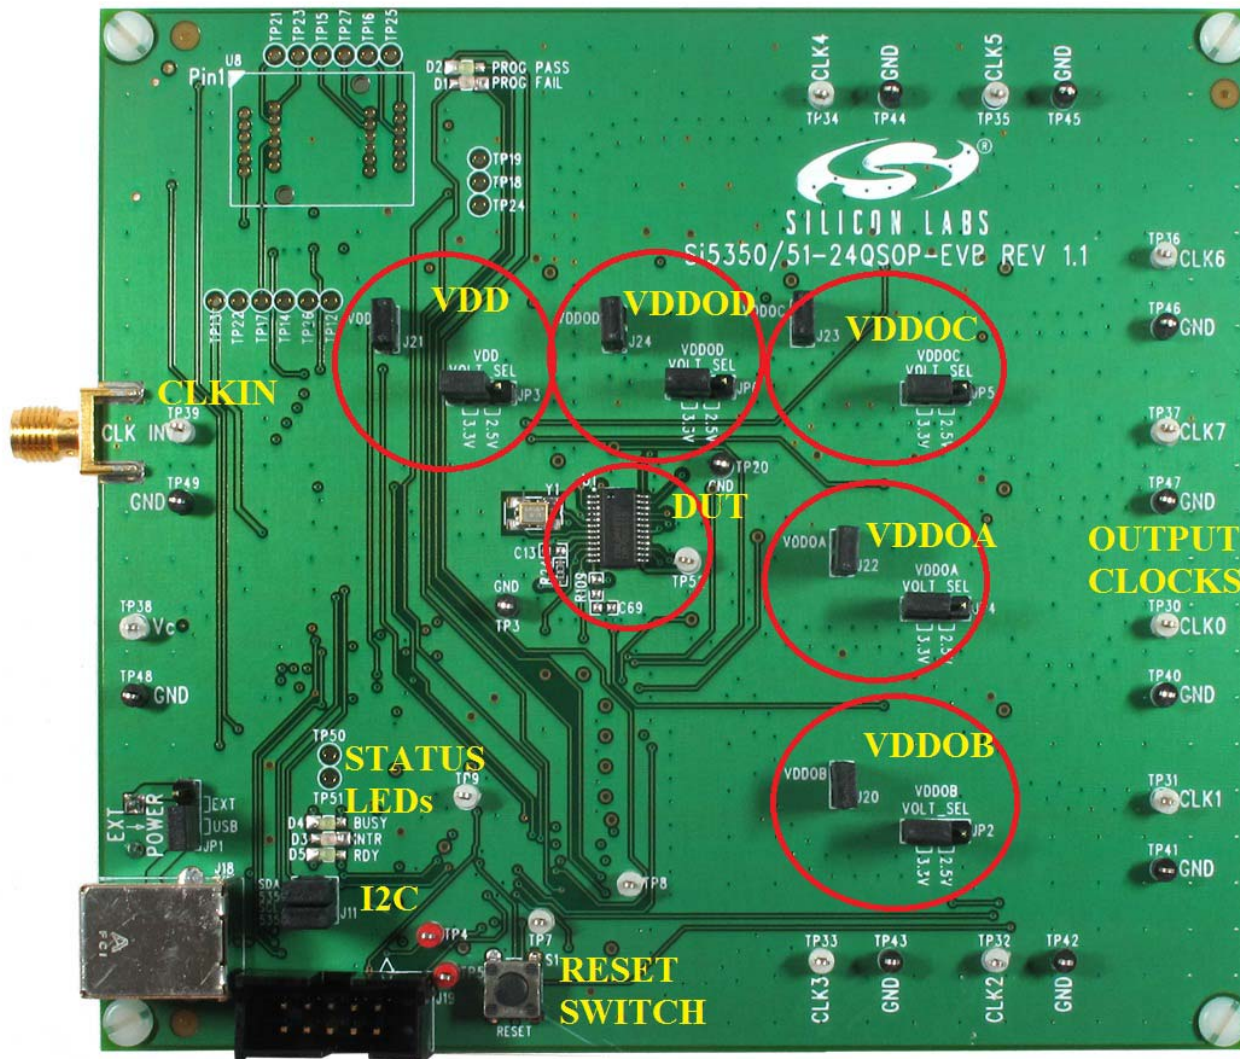

Figure 1. EVB Features
Figure 1 highlights the main features of the EVB. The onboard MCU is responsible for programming the Si535x timing IC, measuring the device's current consumption reported in ClockBuilder™ Desktop, managing power, and controlling status LEDs. VDD and VDDO jumper options allow the option to choose between 2.5 V and 3.3 V or to power the device with external supplies (see “2. Jumpers” for details). I²C jumpers allow the Si535x to be disconnected from the I²C bus to allow external control from another I²C master.
- **EXP POWER**—Allows user to select between 5 V USB supply and 5 V external supply on J17. See Figure 1 for jumper locations.